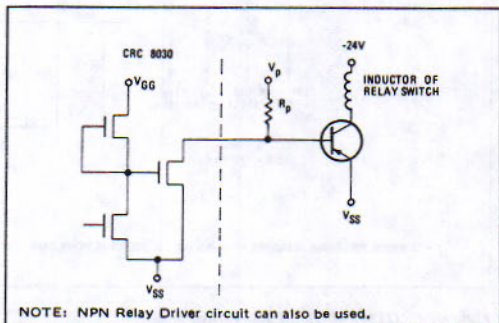

Figure 17. CRC 8030/Transistor Interface.
C. Transistor Interface (see figure 17):